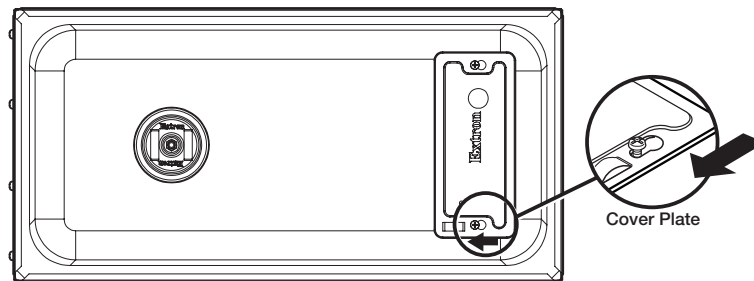

Figure 6. Removing the Cover Plate
7. **Remove the cover plate** — Loosen (do not remove) the two screws on the cover plate and remove it, as shown in figure 6.